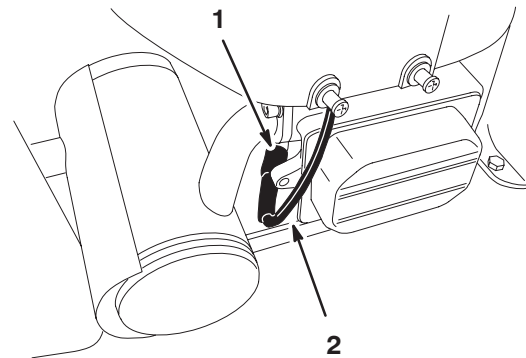

Figure 26
6. Disconnect the wire from the spark plug (Fig. 26).
8. Remove the spark plug and metal washer (Fig. 26).
3. Connect the wire to the spark plug (Fig. 26).